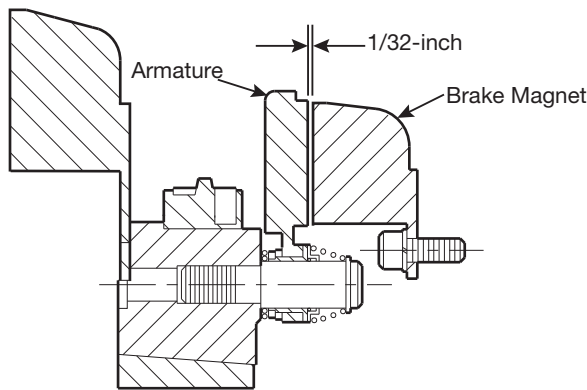

Figure 11
3. Position the assembly to allow a gap of about 1/32-inch between the brake magnet and armature faces. (Figure 11)